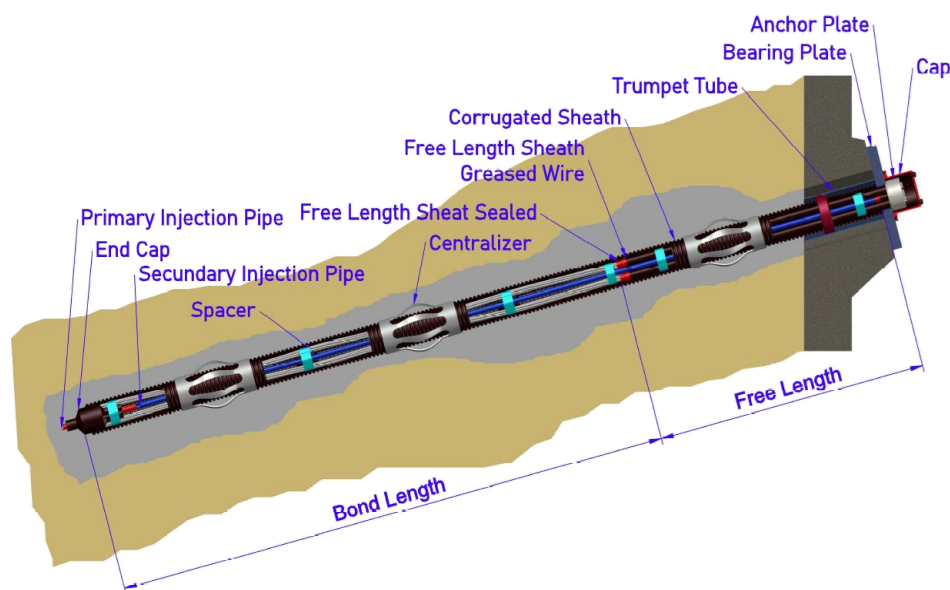

Figure 2. Definition of permanent anchor
- **Permanent anchors:** according to EAD 160071-00-0102 with improved corrosion protection, PLE1 type (see Figure 2 and Annex 3). In this type, each length is protected from corrosion as follows: